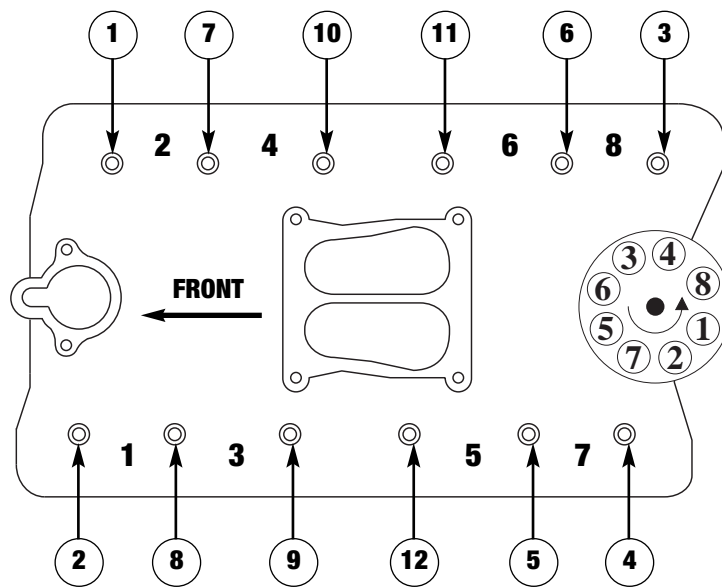

Figure 1 - 400-455 c.i.d. Oldsmobile Intake Manifold Bolt Tightening Sequence and Firing Order
5. Torque all of the manifold bolts in two steps by the sequence shown in **Figure 1** to 25 ft/lbs.